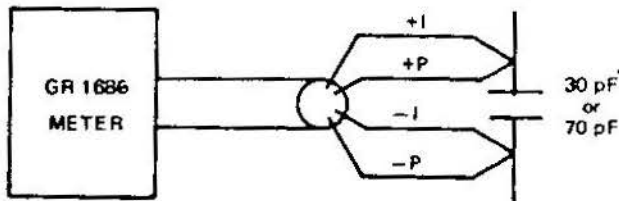

Figure 5-6. Test setup for C-measurement checks and adjustments not requiring standard capacitors.
e. *AC Numerator Adjustment.* Connect the 1686 as shown in Figure 5-6. Set the 1686 RANGE switch to 5. Observe display and adjust P-R85
a. Set 1686 RANGE switch to 3 and FREQUENCY switch to 120 Hz (100 Hz). Connect the 1686 as shown in Figure 5-6.